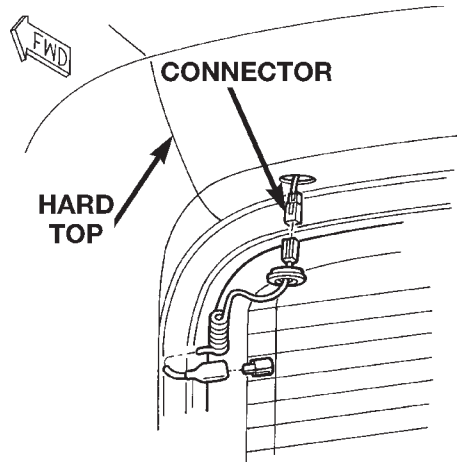

Fig. 75 Rear Defroster Connectors
- (1) If equipped, disconnect the rear defroster harness connectors (Fig. 75).
- (2) If equipped, disconnect the wiper motor harness connectors.